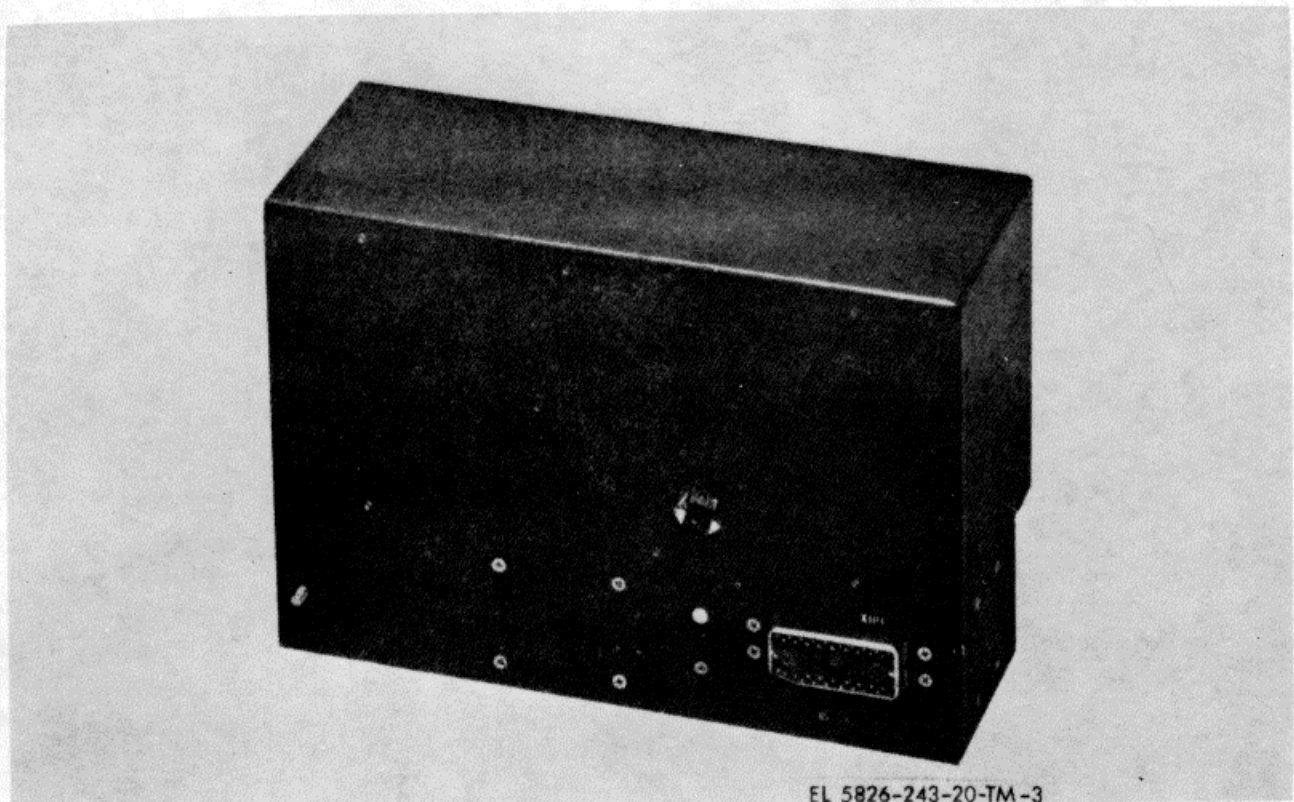

Figure 1-3. Converter, Signal CV-2921(P) / ARN-103(V).
**1-9. Converter, Signal Data CV-2924(P) ARN-103(V)**
Converter, Signal Data CV-2924(P)/ARN-103(V) (fig. 1-3) houses the bearing and range couplers, digital interface module and buffer module. The converter provides electrical interface between Receiver-Transmitter RT-1057/ARN-103(V) and the adapter